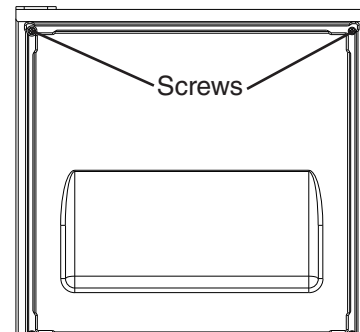

Fig. 21
- 2) Temporarily fasten the overlay panel to the door using 2 of the M4×25 pan head screws provided. See Fig. 21.